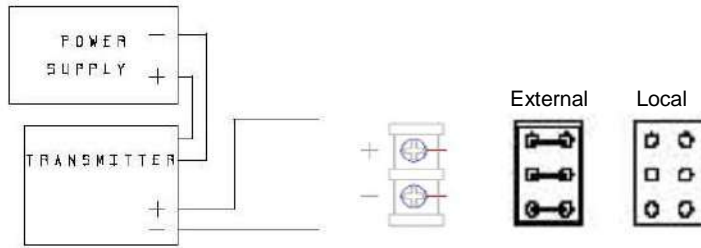

Figure 20: Configuration for Sensor with More than 4 mA Power
The 4-20 mA SIM can be configured in two ways based on the power connections. You can switch between external or local power, based on the placement of the jumper blocks as displayed in Figure 19 and Figure 20. Please refer to instructions on the SIM for current jumper placement and orientation.
- Connect the transmitter output to the input channel (+ to + and - to -), as displayed in Figure 20.